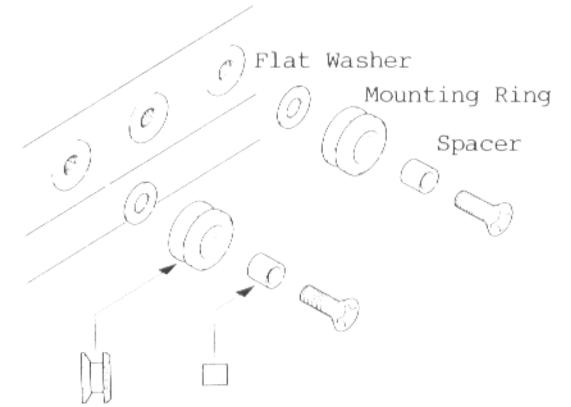

Figure 2.
- (2) Screw the mounting rings to the transceiver using the supplied spacers and flat washers as shown in Figure 2. Be sure that the rings are oriented as shown.